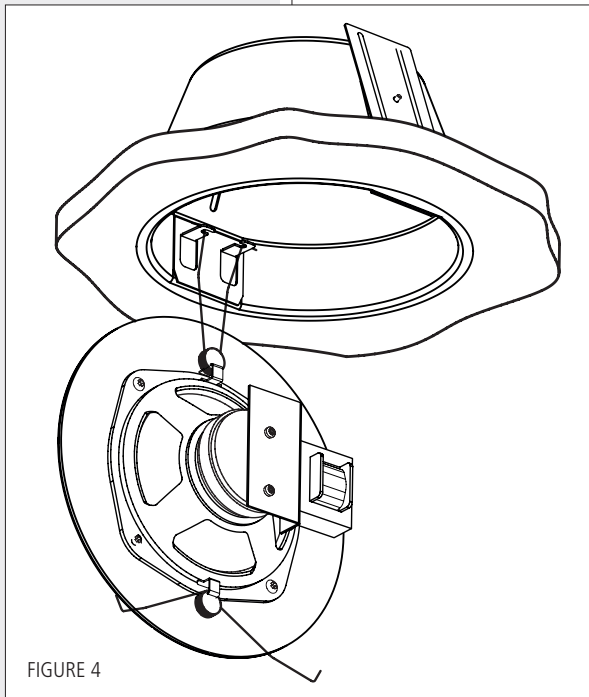

FIGURE 4
5. Hang the speaker into the base, fitting the ends of one of the two support springs **C** on the speaker into one of the hooks **D** on the base (as shown in figure 4).